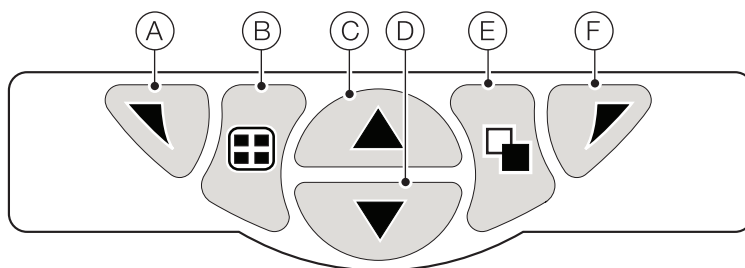

Figure 17 Front panel keys
- **Diagnostics View** – displays a list of active diagnostic messages identified by priority and message – see Figure 17